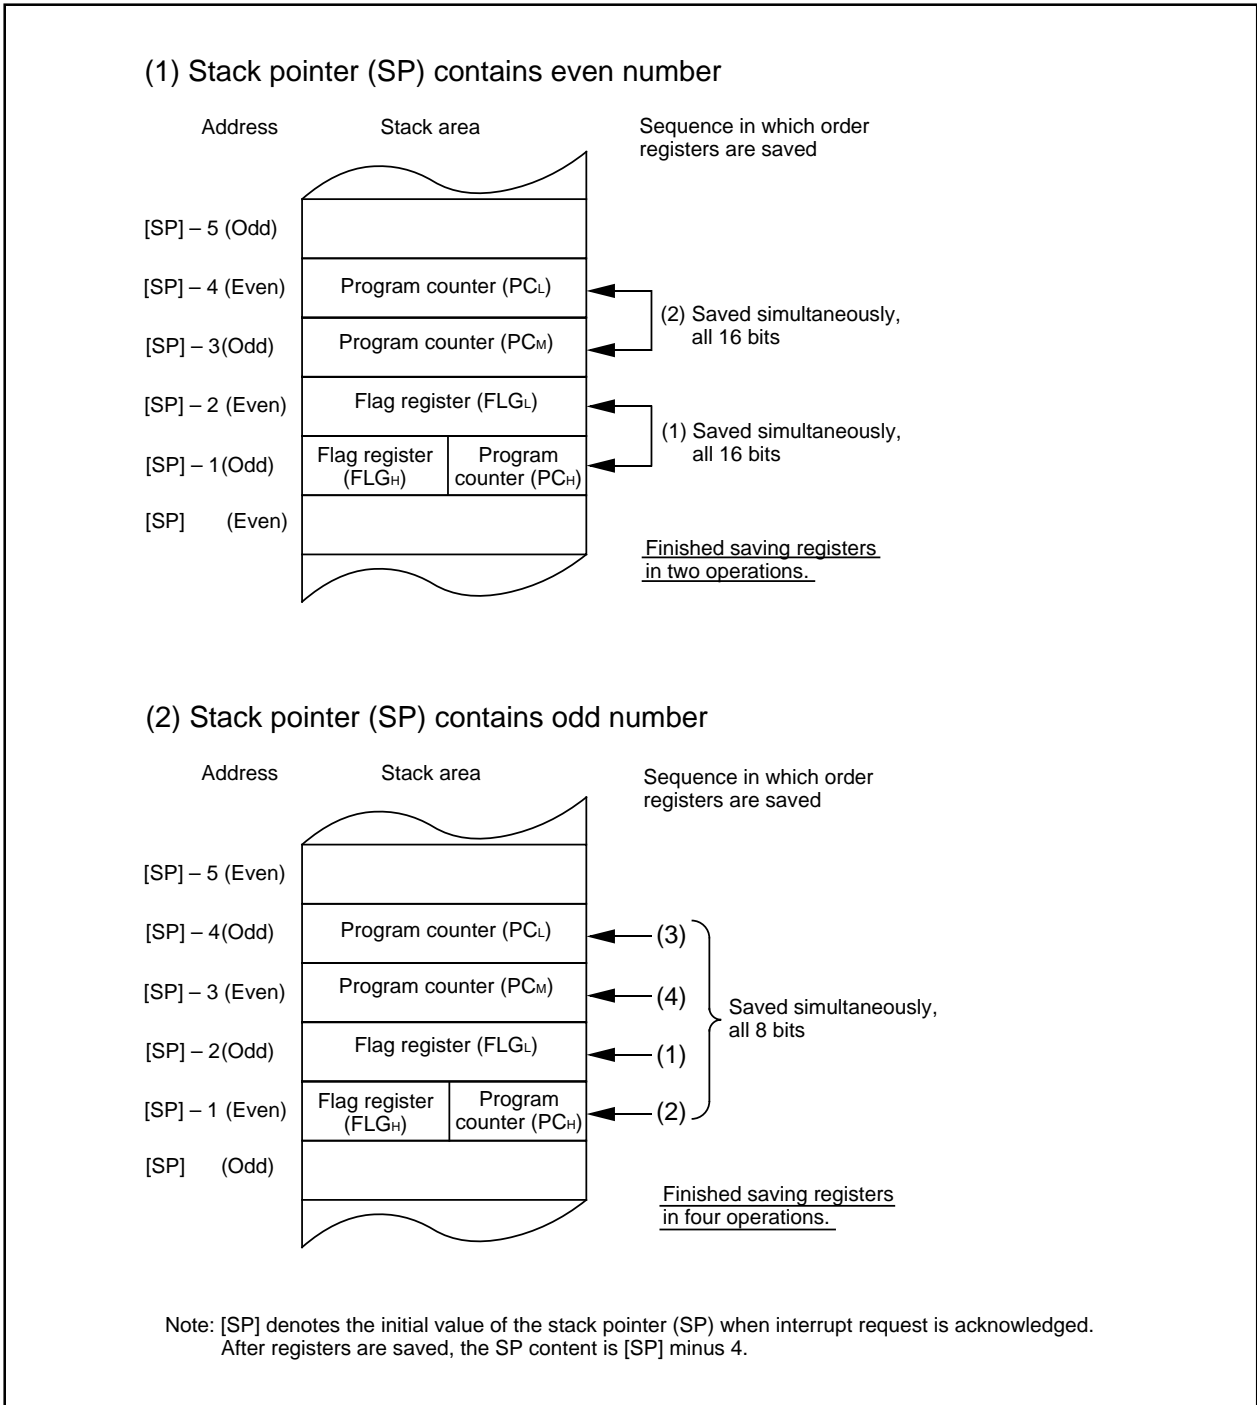

Figure DD-7. Operation of saving registers
The operation of saving registers carried out in the interrupt sequence is dependent on whether the content of the stack pointer, at the time of acceptance of an interrupt request, is even or odd- If the content of the stack pointer (Note) is even, the content of the flag register (FLG) and the content of the program counter (PC) are saved, 16 bits at a time. If odd, their contents are saved in two steps, 8 bits at a time. Figure DD-7 shows the operation of the saving registers.